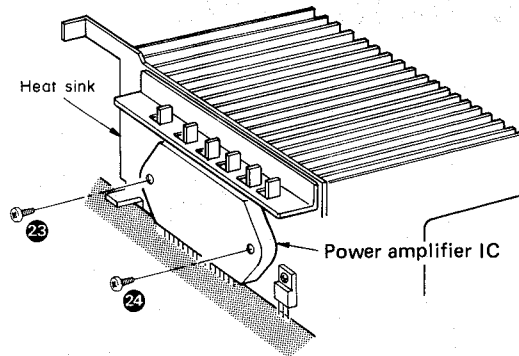

Fig. 18
3. Remove the 2 setscrews (Fig. 18 : ㉓ , ㉔) used to secure the power IC on the heat sink, and then pull the power IC.